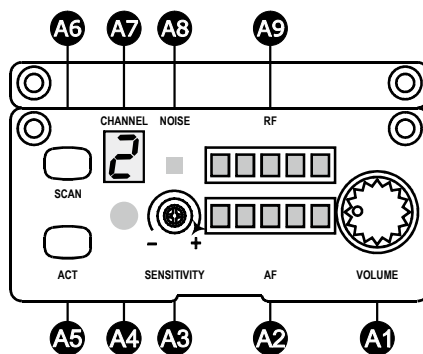

Fig. 5
(D) MRM-70B Part Names, Fig. 5: